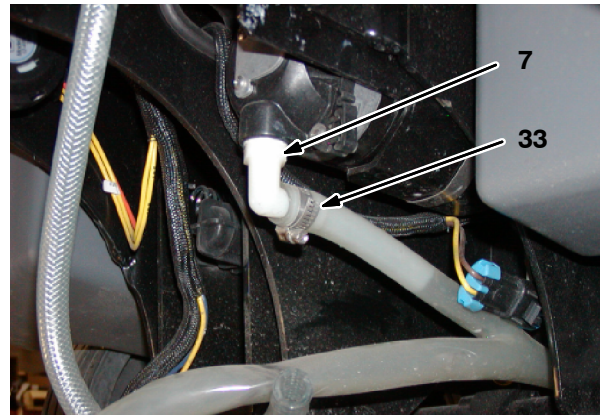

FIG. 6
5. Use a hose clamp (33) to attach the hose from the solution tank to the plastic fitting (7) on the solution pump (6). Refer to Fig. 6.